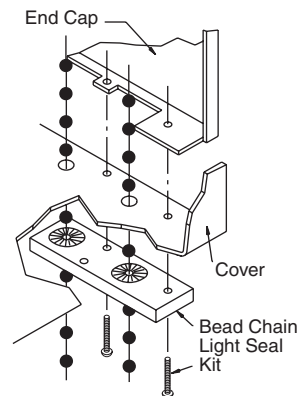

Figure 13
- ⑫ Re-attach cover to head box.
- ⑬ For bead-clutch operation, uncouple the chain at the connector so that the chain can be dropped through the two large holes in the bottom of the face cover that line up below the clutch. Hook cover top over top lip on top cover and swing down. Check alignment then snap on at end caps. If this is a pocket installation, re-attach bottom closure to pocket. Slide the length of the bottom cover into the slot on the head box, then push up and snap on at end caps. Attach at end caps using screws removed in step 3. For an electric or spring operated shade, proceed to step 15. For a bead clutch operated shade, the two ends of the bead chain can be threaded through the holes in the bead chain light seal and the light seal can be attached to the bottom of the cover box (see Figure 13). Reconnect the chain and run the shade to the fully down position. Using a pair of pliers, attach one of the stop balls to the very top of the exposed front portion of the chain. CAUTION: Be careful not to distort the ball with the pliers. (These balls cannot be easily removed once put on.) This will be